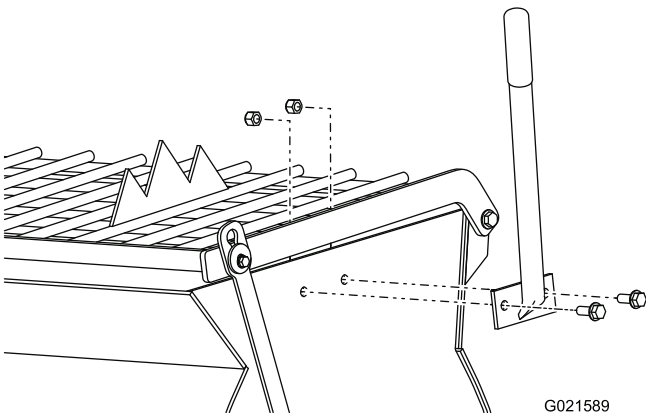

Figure 3
2. Position the dump handle so that the bolt holes align with the bolt holes in the drum (Figure 3).
3. Insert the 2 bolts through the bolt holes in the dump handle and the drum (Figure 3).